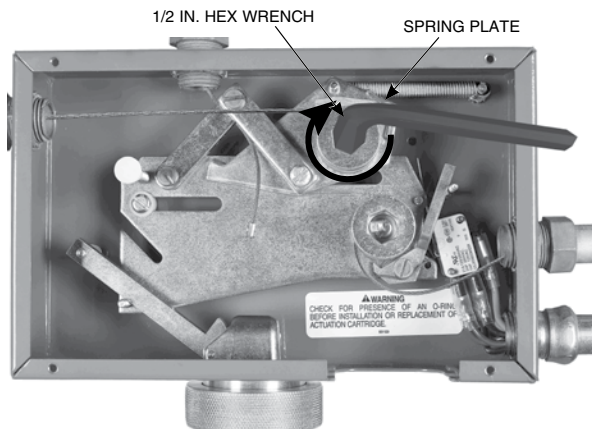

FIGURE 27
9. The detection (fusible link) line can now be put into a set position by applying tension to the fusible link line. This can be accomplished by using a 1/2 in. hex wrench on the fusible link ratchet wheel. The ratchet wheel will be ratcheted in a clockwise direction until the spring plate makes contact with the top* of the control head box. See Figure 27.
Note: Figure 27 displays the MCH3 or NMCH3 control head.